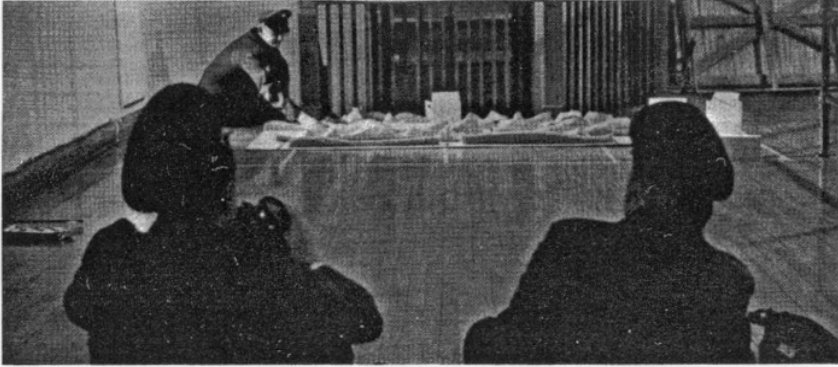

Figure 3. Relationship of observation post and pegboard.
- Pace off approximately 30 feet from the pegboard, and mark observation post positions on the floor (fig 3). The azimuths from the observation posts to the pegboard should correspond to the azimuths from the OP to the impact area on the military map. If the azimuth on the map measures 3,600 mils from the OP to the impact area, then the azimuth from the OP marked on the floor to the trainer must be 3,600 mils.